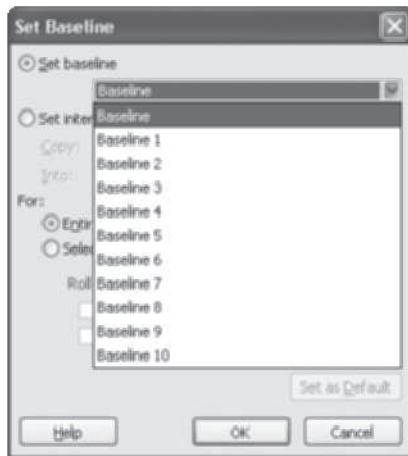

FIGURE A-47 Set Baseline dialog box
2. *Open the Save Baseline dialog box and save as a baseline.* Click the **Project** tab, click the **Set Baseline** button under the Schedule group, and click **Set Baseline**. Click the **Baseline** list arrow to reveal multiple baselines, as shown in Figure A-47. Notice that you can save up to ten baselines, and you can change the options if you do not want to save the Entire project. Also notice that after you set the baseline, the cost numbers in the Baseline column are updated. Keep the default settings, and click **OK**.
There are several options in the Save Baseline dialog box, as shown in Figure A-47. You can save the file as an interim plan if you anticipate several versions of the plan. You can also select the entire project or selected tasks when saving a baseline or interim plan. As mentioned above, you can save up to ten baselines with Project 2010.